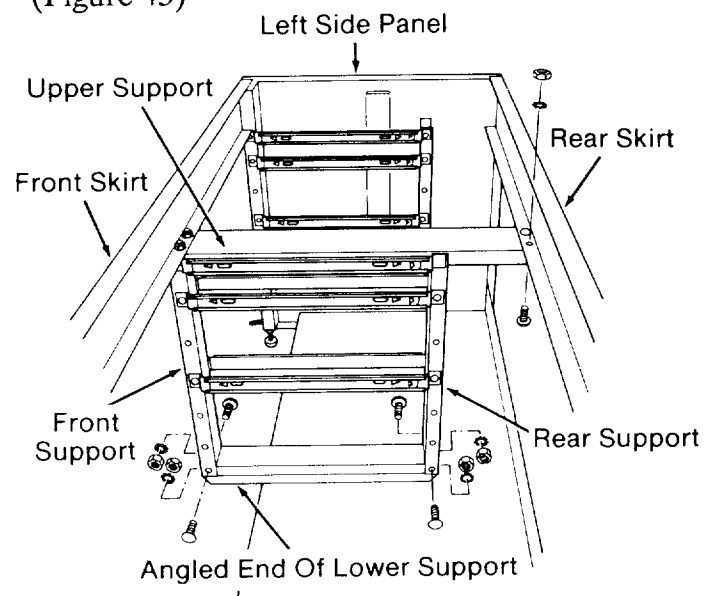

Fig. 43
33. Tilt this whole assembly and slide it into place on the cabinet. Make sure that the *front support* extends between the *front skirt* and the angled end of the *lower support*, and that the *rear support* is inside the cabinet. (Figure 43)
34. Attach the *upper* and *front supports* to the *front skirt* using two truss head bolts, lockwashers, and hex nuts. Make sure the heads of the bolts point down as shown. (Figure 43)
35. Attach the *upper support* to the *rear skirt* using two truss head bolts, lockwashers and hex nuts. Make sure the heads of the bolts point down as shown. (Figure 43)
36. Attach the *front* and *rear supports* to the *lower support* using four truss head bolts, lockwashers, and hex nuts. (Figure 43)